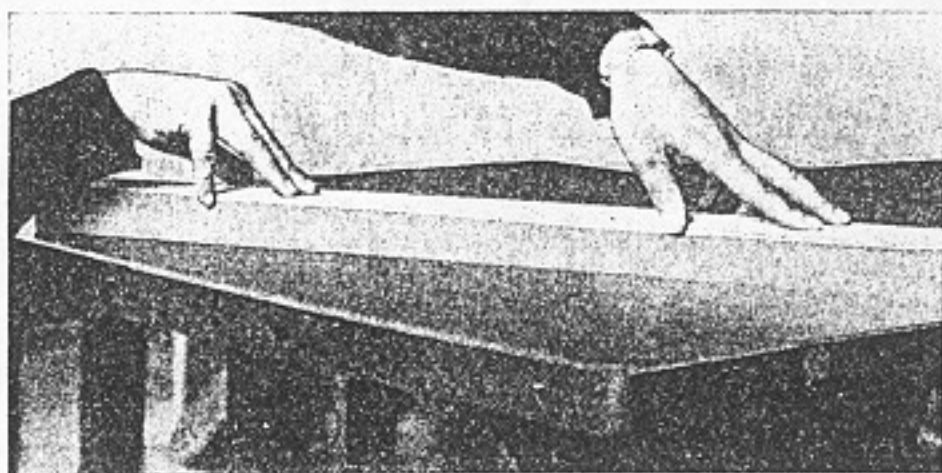

Fig. 122. Testing for "wind."
3. One side is planed straight and true. It is tested on a perfectly flat surface, preferably of iron (Fig. 122). If it can be rocked, the high